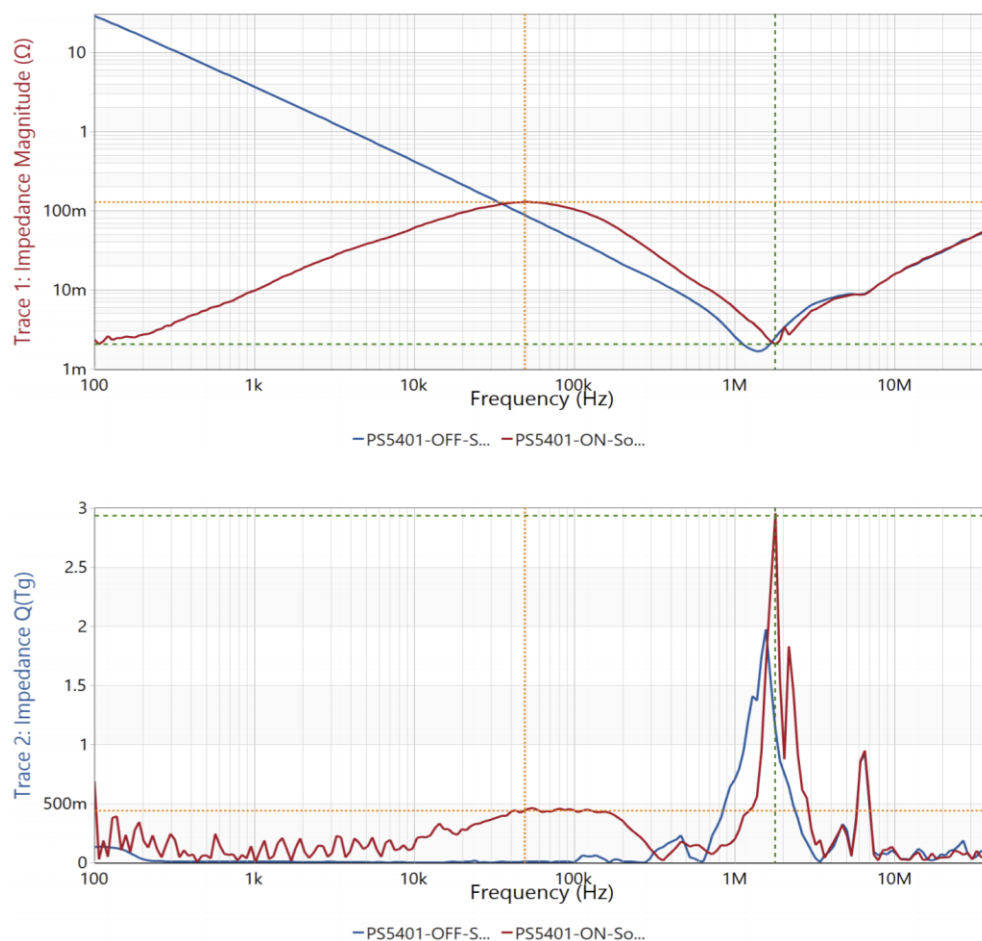

Fig. 10 - NISM Method of Infineon PS5401 at C42 (SOL calibration method).
By using NISM, we can determine a VRM's stability. As shown by Figure 10 and 11 the calculated result from the Bode Analyzer Suite allows a quick determination that these two VRMs have a stable control loop by analysis of the Phase Margin (PM) showing greater than 71°.